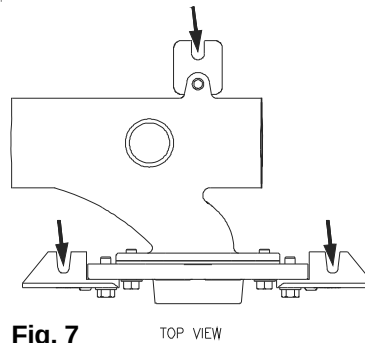

Fig. 7
7. Align the carrier with the waste line. Mark locations on the floor for anchoring studs. See Fig. 7